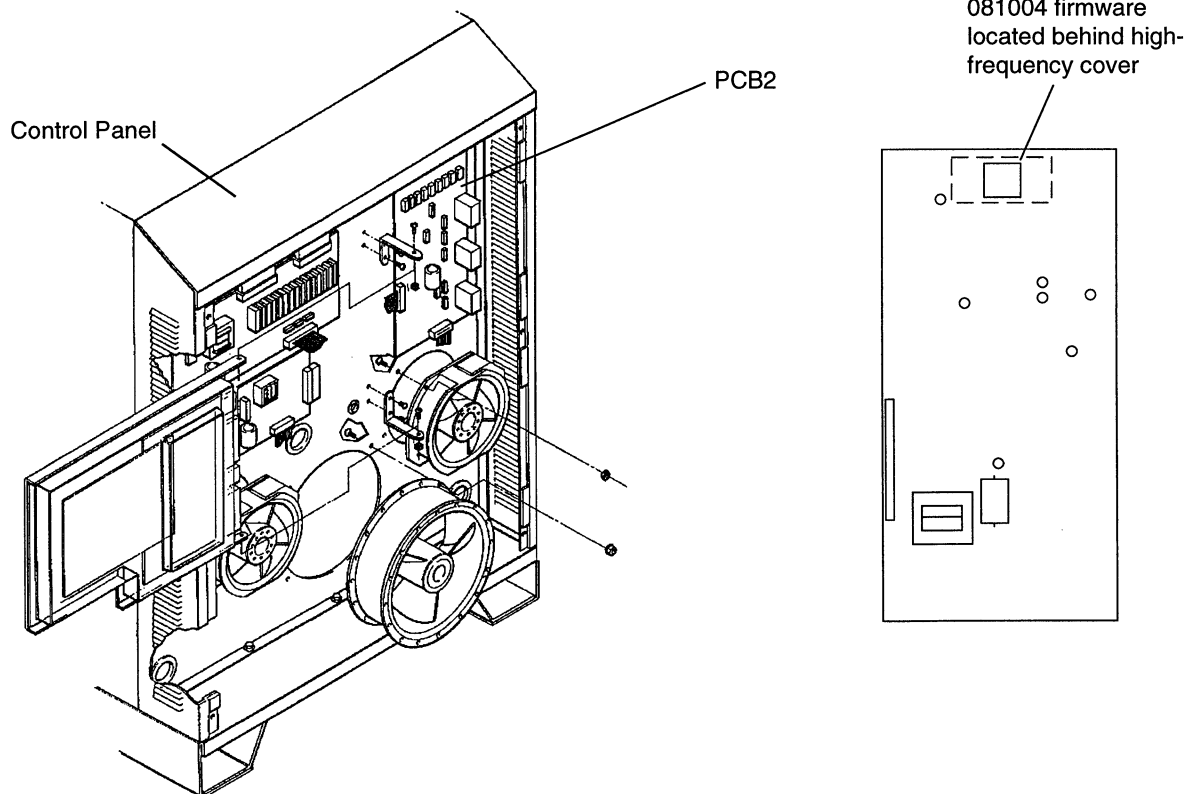

Figure 6 PCB2 and 081004 Firmware Location
4. Find control board PCB2 and firmware IC 081004. Firmware IC is located in a socket underneath the high-frequency cover. See Fig. 6.